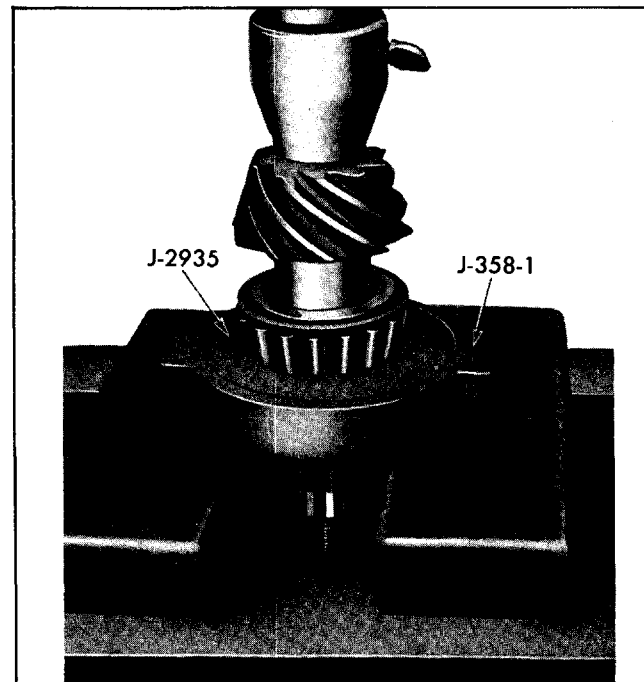

Fig. 4-37 Installing Rear Bearing With Installer J-2935 and Holder J-358-1
19. If rear bearing inner race and roller assembly was removed, replace assembly by pressing firmly in place against shoulder of pinion using Installer Plate J-2935 and Holder J-358-1 (Fig. 4-37).